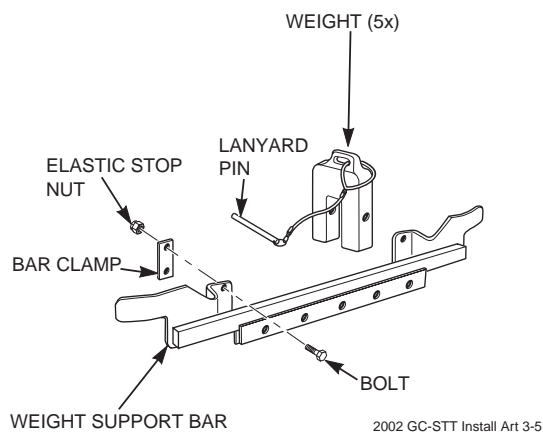

FIGURE 4-6
16. Install the weight support bar to the front of the machine by resting it directly on top of the caster support arms and sliding it tight against the frame of the machine. Secure the weight bar to the machine using (2) bar clamps, (4) 3/8-16 x 1-1/2" bolts and (4) 3/8-16 elastic stop nuts. See Figure 4-6.
17. Install the weight assemblies to the weight support bar and secure them to the bar using the 1/2"x 6-1/4" pin and lanyard. See Figure 4-6.
17. Install the weight support bar to the front of the machine by resting it directly on top of the caster support arms and sliding it tight against the frame of the machine. Secure the weight bar to the machine using (2) bar clamps, (4) 3/8-16 x 1-1/2" bolts and (4) 3/8-16 elastic stop nuts. See Figure 4-6.